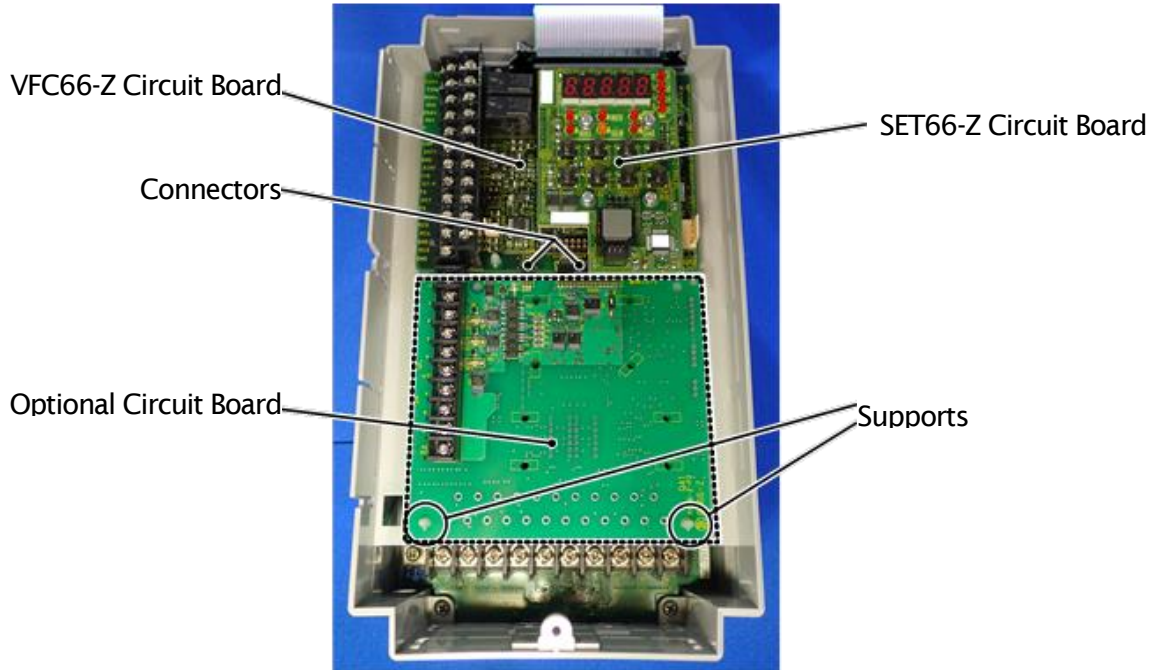
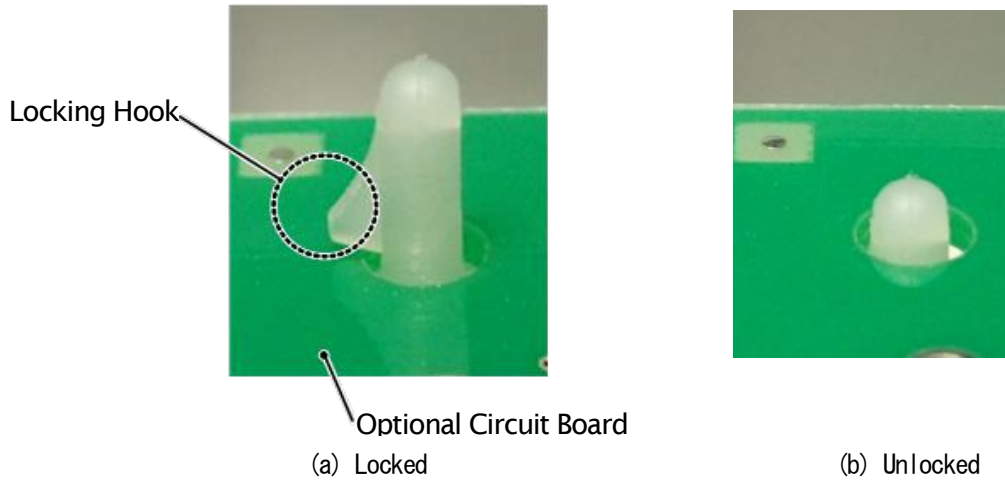

Figure 3.6 EIP66-Z Installation Position (VF66B-2R222)
Figure 3.8 Support Locking Hook
- (1) Confirm that the power is off before performing any work.
- (2) Install the EIP66-Z board in the location designated by the dotted lines shown in Figure 3.6. (The figure shows the VF66B-2R222 model, however, the installation location is the same for other models.) If another optional circuit board is already installed, remove it by following the procedure described below. If another optional circuit board is not already installed, skip to (6).
- (3) In order to safely remove the optional circuit board, first remove the SET66-Z board. Remove the 4 screws indicated by the circles in the figure on the right. Pull the SET66-Z board away from the VFC66-Z board in order to detach it.
- (4) 2 board supports are included to mount the optional circuit board to the inverter housing, as indicated by the circles in Figure 3.6. Press down on the board support locking hooks as shown in Figure 3.8 (a) to remove the board. Do not lift the bottom edge of the board too much, the connectors could be damaged.
- (7) Align the four holes of the EIP66-Z board with the 2 board supports indicated by the circles in Figure 3.6. Push down on the board until the support locking hooks snap into place as shown in Figure 3.8 (a).
- (8) Install the SET66-Z board to its original position.
- (9) Return the inverter unit cover lid to its original position.